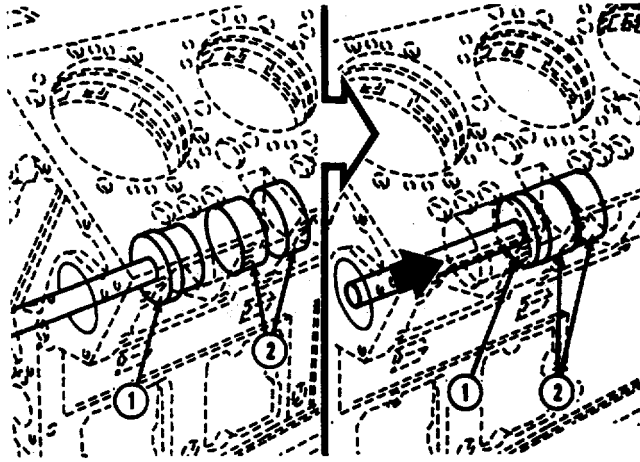

FIGURE 4-80. *Camshaft Bushing Removal.*
- (1) Use the camshaft bushing driver (1, FIG. 4-80) to remove bushing (2) from the bore that contains one bushing.
- (2) In a bore that contains two bushings, use driver (1) to push one bushing (2) until it touches the other one. Push both bushings out at the same time.
- (3) Use an emery cloth to remove burrs and sharp edges from the bore.
- (4) Measure inside diameter of bore. Verify it is between 3.1875 inch (80.963 mm) and 3.1885 inch (80.988).